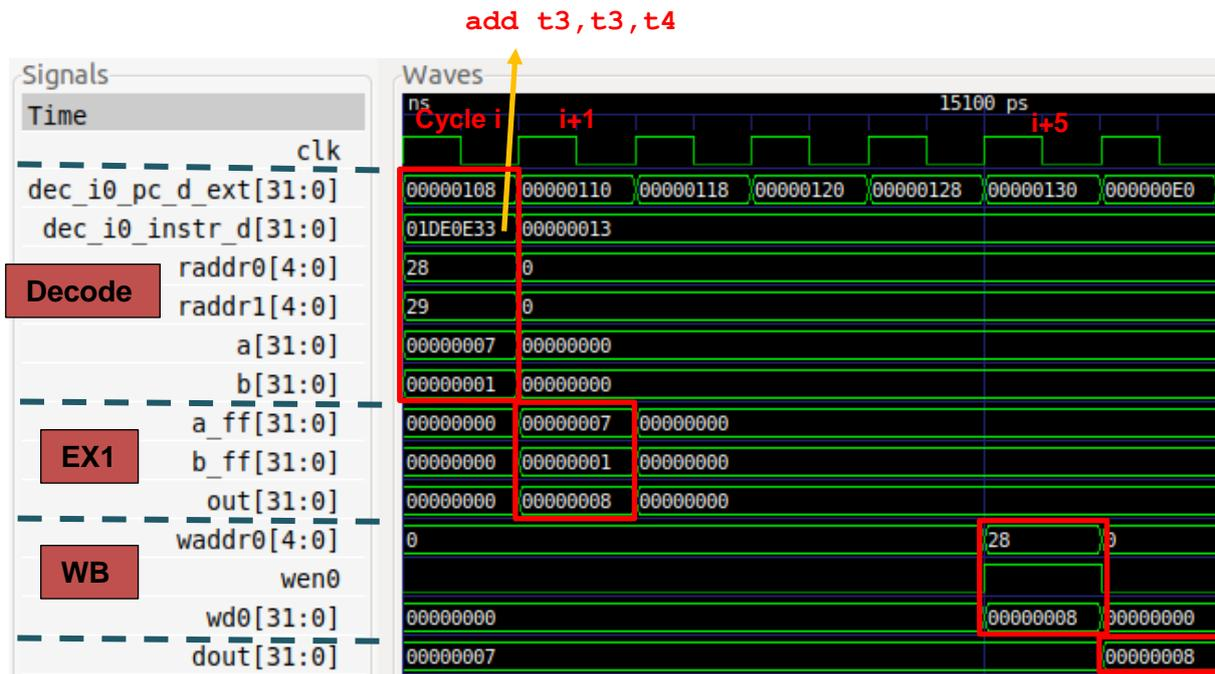
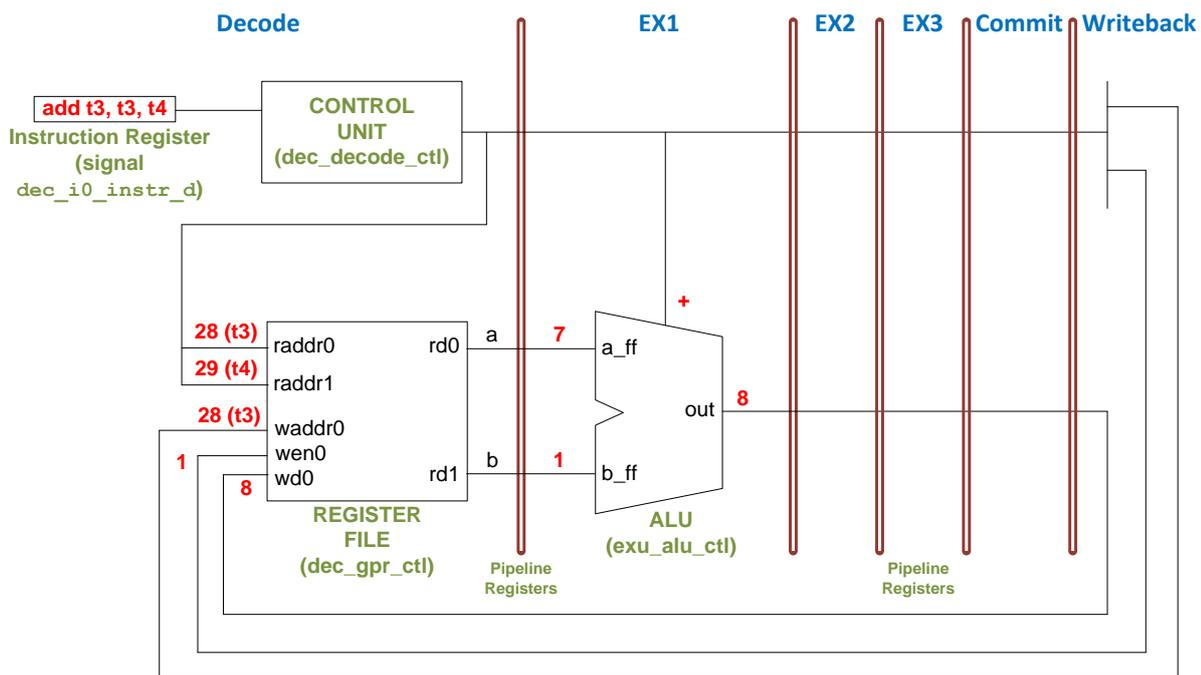
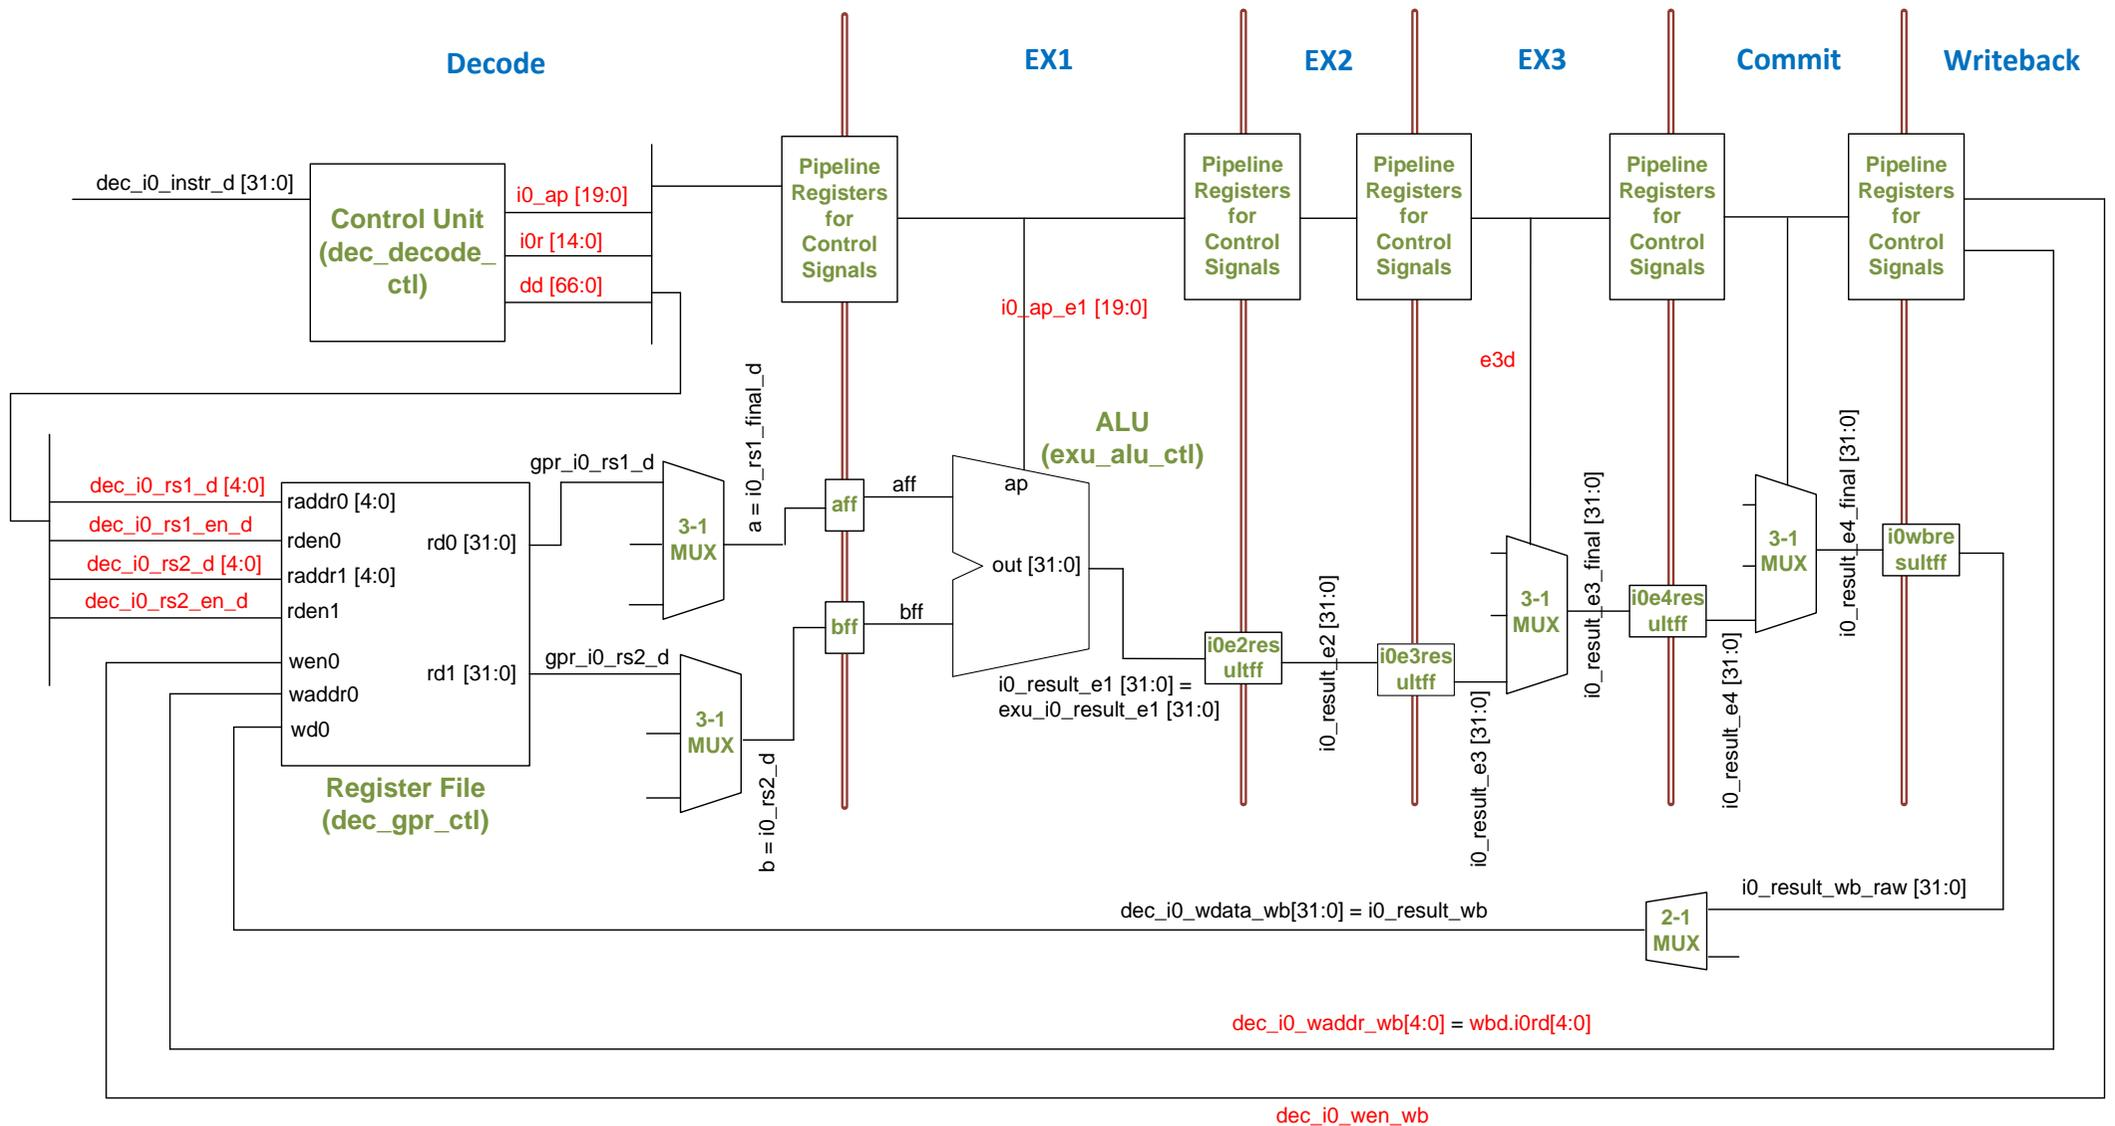
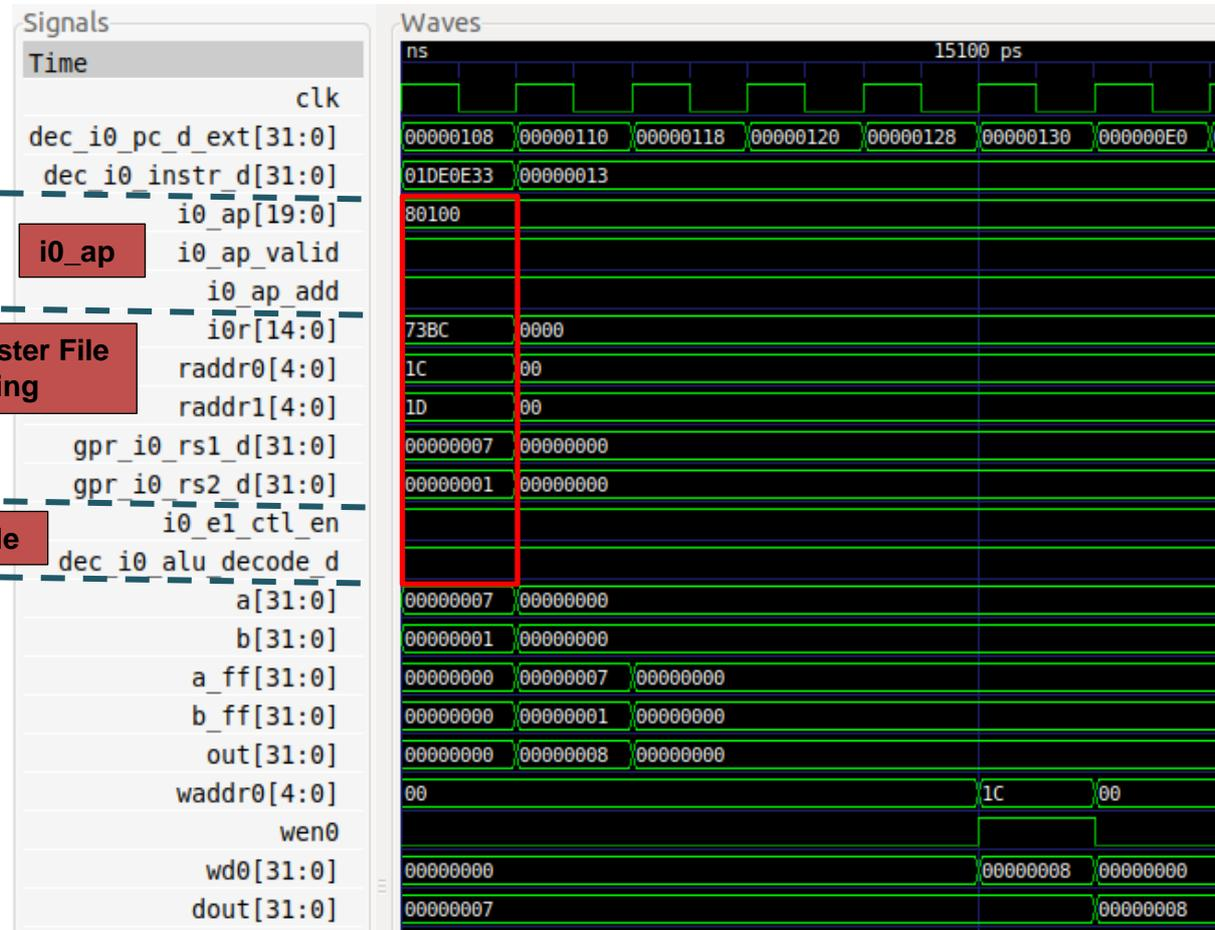

Figure 3. Verilator simulation for the example program in Figure 2
Figure 4. SweRV EH1 pipeline executing an add instruction
Figure 6. Main units used by Arithmetic-Logic instructions flowing through the I0 pipe
Figure 7. Verilator simulation of the example program of Figure 2, including control signals and Register File read ports
Figure 3 shows the Verilator simulation of the program from Figure 2 for the execution of the `add` instruction in the fourth iteration of the loop. The figure includes some signals associated with the Decode, EX1 and Writeback (WB) stages. The values highlighted in red correspond to the `add` instruction as it traverses these three stages through the I0 Pipe. Note that the signals shown in the figure correspond to the I0 Pipe.
Figure 4 shows a simplified diagram of the SweRV EH1 pipeline executing the `add` instruction during the fourth iteration of the loop (see program in Figure 2) through the I0 Pipe. Note that the figure merges the state of the processor in different cycles:
TASK: Replicate the simulation from Figure 3 on your own computer. To do so, follow the next steps (as described in detail in Section 7 of the GSG):
- Use file *test_1.tcl* (provided at *[RVfpgaPath]/RVfpga/Labs/Lab12/ADD_Instruction/*) for opening the same signals as the ones shown in Figure 3. For that purpose, on GTKWave, click on *File – Read Tcl Script File* and select the *test_1.tcl* file.
We follow the `add` instruction through the pipeline by analysing the waveform from Figure 3 and the diagram from Figure 4 at the same time, and as described below.
In this section we analyse the stages traversed by the `add` instruction, from Decode to Writeback, in more detail than in Section A and we progressively add more signals to the simulation from Figure 3.
Figure 6 shows a detailed diagram of the main elements that an `add` instruction traverses during its execution through the I0 Pipe. This was already illustrated in Figure 4 of Lab 11 (we recommend comparing both figures), but we now focus only on the I0 Pipe and provide details related to the `add` instruction. You may need to zoom into the figure to be able to see the details. The names of the control signals are shown in red whereas the names of the data signals are shown in black. These names are the actual names used in the SweRV EH1 Verilog modules. Equal symbols (=) represent signal assignments in the Verilog code.
TASK: Locate the main structures and signals from Figure 6 in the Verilog files of the SweRV EH1 processor.
As also explained in Lab 11, the input operands are provided to the I0 pipe (`i0_rs1_final_d` and `i0_rs2_d`) through two 3:1 multiplexers implemented in the Decode Stage (see Figure 6). In the `add` instruction from our example, both input operands are obtained directly from the Register File:
TASK: Find in the Verilog code (module `exu`) the 3:1 multiplexer on the bottom (second input operand) and try to find the origin of its inputs (in Figure 6 only the input coming from the Register File is shown). You do not need to look into the inputs too closely, as they will be analysed in the exercises proposed in Section 3 and in future labs.
Figure 7 extends the Verilator simulation from Figure 3 by adding the signals introduced above:
TASK: Replicate the simulation from Figure 7 on your own computer. You can use the `.tcl` script provided at: `[RVfpgaPath]/RVfpga/Labs/Lab12/ADD_Instruction/test_2.tcl`. Note that aliases are used in this `.tcl` file for some of the control bits.
Analyse the waveform from Figure 7. As explained above, all bits of `i0_ap` are 0 except the `valid` and `add` bits. As also explained, signal `i0r` contains the identifiers of the two source and one destination register of the `add` instruction. Using `i0r.rs1` and `i0r.rs2`, the Register File is accessed (see signals `raddr0` and `raddr1`) and the values read are provided to the I0 pipe: `gpr_i0_rs1_d = a = 0x7` and `gpr_i0_rs2_d = b = 0x1`. Finally, you can see that both the `valid` and `enable` signals are 1, thus the I0 pipe ALU will be used in the next cycle.
TASK: In the example from Figure 2, replace the `add` instruction with a non A-L instruction (such as a `mul` instruction). Verify that the `i0_ap` signal has all its fields equal to 0 and that this makes the I0 ALU not work (you will see that signals `a_ff` and `b_ff` for the I0 Pipe at the EX1 Stage remain stable for this instruction). You can use the same `test_2.tcl` file used in the example from Figure 7.
TASK: Include the new signals analysed in this section in the simulation from Figure 7.
TASK: Perform a simulation of a `sub` instruction similar to the one from Figure 7. Remember that you can include new signals in the simulation through the `.tc/` file.
In the last stage, the result of the `add` instruction is written to the Register File as shown in Figure 6. The 32-bit result (`i0_result_wb_raw[31:0]`) was computed in the EX1 stage and was propagated to this stage. It traverses a 2:1 multiplexer before being passed to the Register File (the other input of this multiplexer comes from the Divisor, as we will analyse in Lab 14). The register address (in Figure 7 signal `waddr0` is shown in hexadecimal, but it could be shown in decimal as explained before) and the write enable signals are provided through the Control Pipeline Registers.